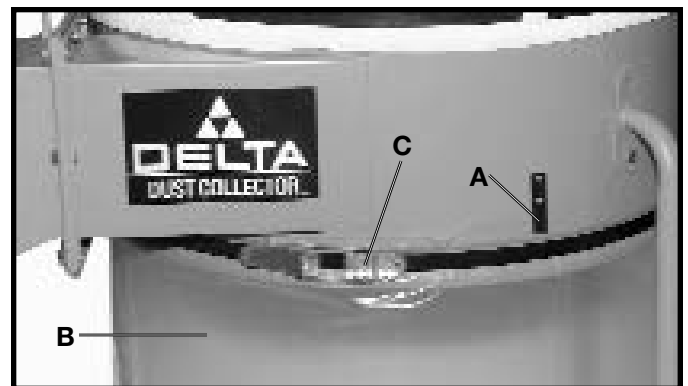

Fig. 22
4. Pull up on each retaining clip (A) Fig. 22, and insert the dust collection bag (B) underneath each retaining clip to hold the dust collection bag in place.
5. Place the locking clamp (C) Fig. 22 around dust collection bag and dust collector drum and lock in place.